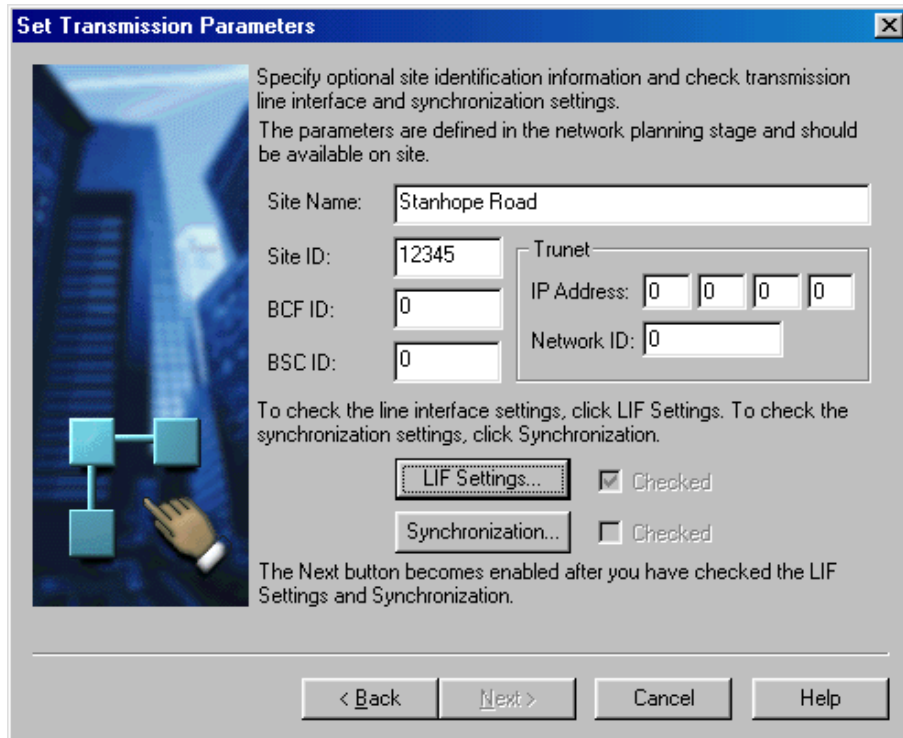

Figure 5. The *Set Transmission Parameters* wizard page of Nokia BTS Manager's Commissioning Wizard
4. Enter the parameters on the *Set Transmission Parameters* wizard page (see Figure 5). All parameters on this page are optional. They appear in the Commissioning Report, but the BTS does not compare them with the corresponding parameters defined at the BSC.